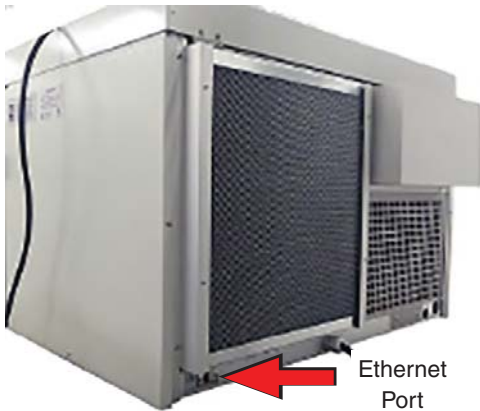
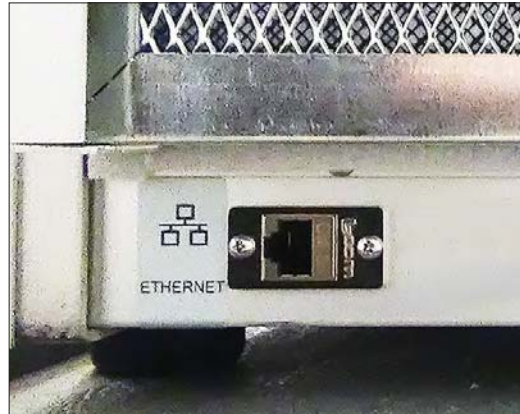

Figure 13.1a: Ethernet port located on lower left rear of tester.
Figure 13.1b: Ethernet port.
- A Ethernet port is located at the rear lower left corner of the tester (Figure 13.1a and Figure 13.1b).